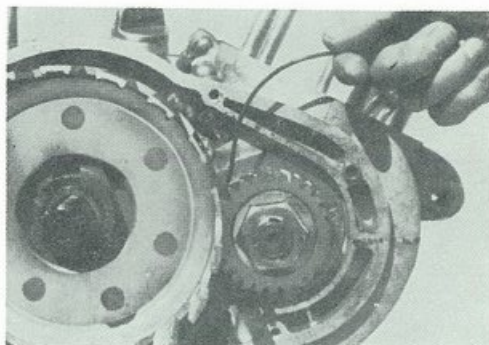

Fig. 8-18-13 Inserting fuse wire
2. Backlash between primary gear and primary pinion excessively large or small backlash between the primary gear and primary pinion causes abnormal noise. Measure the backlash with a dial gauge as shown in Fig 8-18-13. Be sure to set the feeler of the dial gauge along the tangential line and turn the clutch housing by hand.